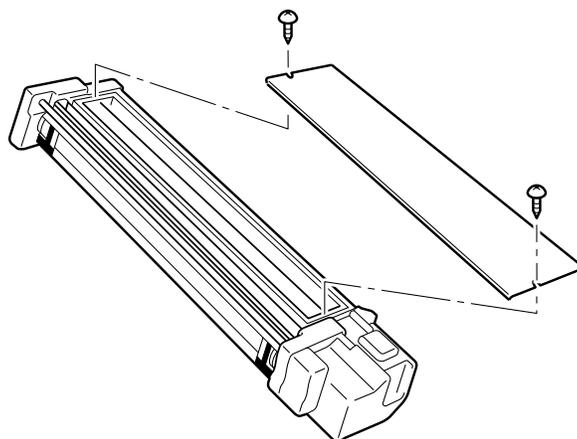

Figure 5-8
6. Remove the two screws securing the lid of the Developer Unit and remove the lid as shown in Figure 5-8.